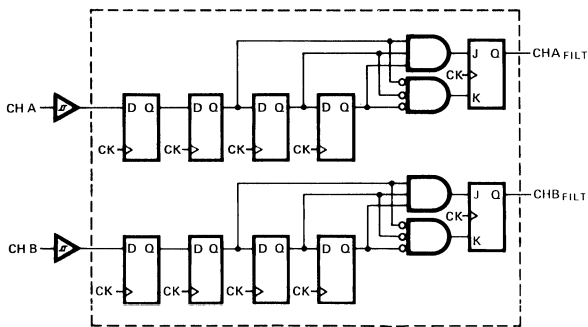

Figure 7. Simplified Digital Noise Filter Logic
Figure 7 shows the simplified schematic of the input section. The signals are first passed through a Schmitt trigger buffer to address the problem of input signals with slow
*CHA_{FILT} and CHB_{FILT} are the outputs of the digital noise filter (see figures 7 and 8).